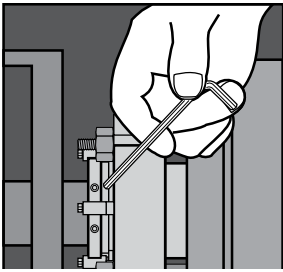

Figure 4
- 2.9 With the impeller, shaft, coupling and bearings in their final operating position, tighten the drive collar set screws. See Figure 4. Note: in designs that have two smaller screws, these are quarter dog screws that hold the collar to the sleeve and should not be tightened. A hex key was provided for the set screws, not for the quarter dog screws.